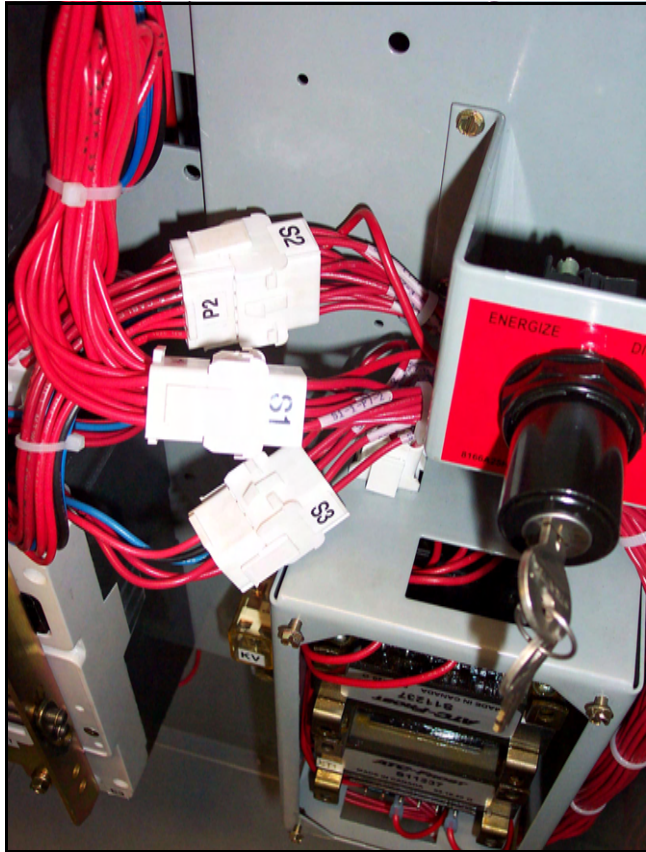

Figure 20. Location of the P1, P2, and P3 Connector Plugs for ATs with the North American Market Transformer Panel.
**Step 1:** Disconnect the power panel from the rest of the transfer switch by unplugging the connector plugs P1, P2, and P3 (Figures 20 and 21).